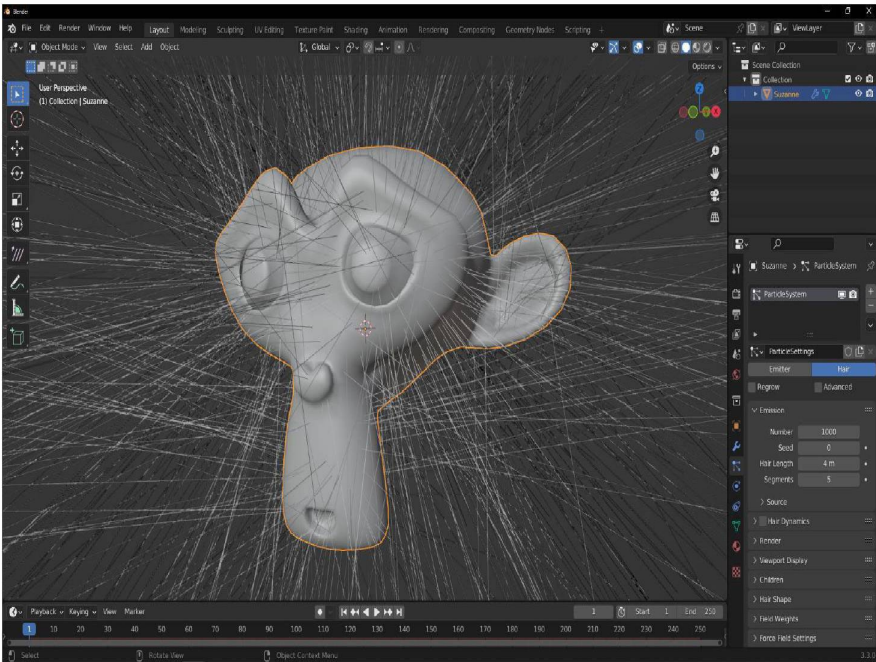

Figure 9.2: Suzanne with Hair particle system assigned
7. Next, from just below the top section where the new **Particle System** is shown under the **Particle Settings** data block, select **Hair** instead of **Emitter**, as shown in *Figure 9.2*.